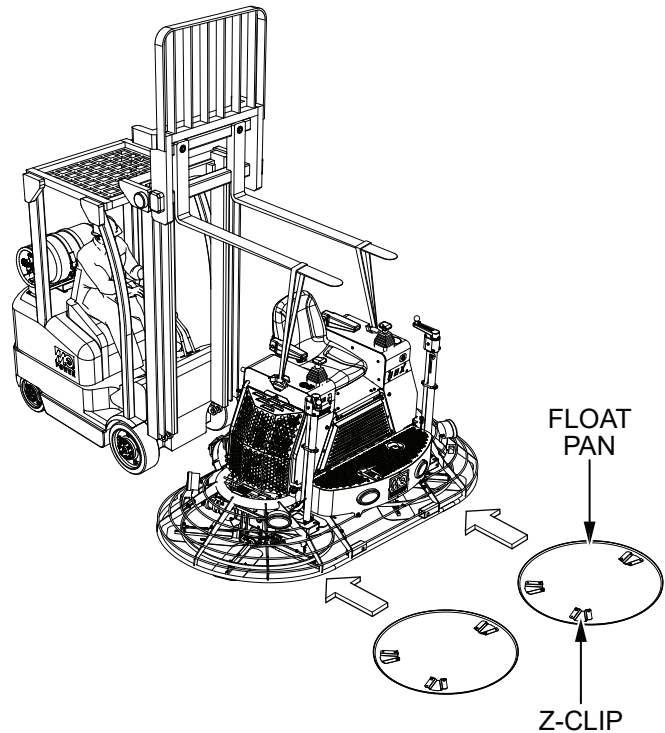

Figure 54. Float Pan Positioning
1. Lift the trowel just enough to slide float pans with Z-clips under the blades (Figure 54). Slowly lower the trowel onto the pans with the blades adjacent to the Z-clips.